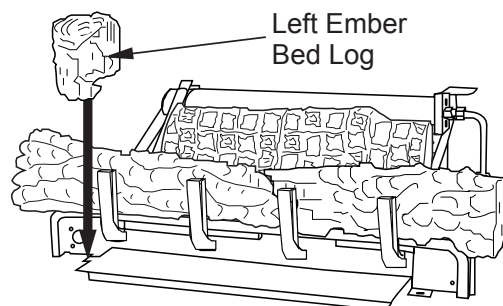

Figure 30 - Installing Left Ember Bed Log
3. Place left ember bed log as shown in **Figure 30**. The log has groove on one side that sets on the ember bed pan. The back side of this log needs to rest against the